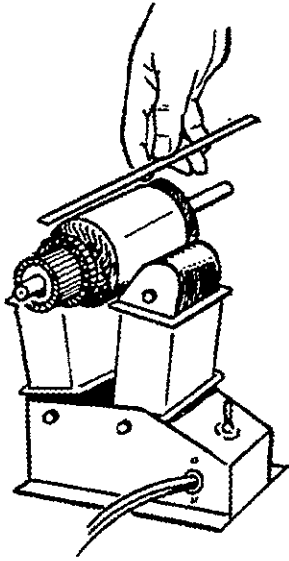

FIGURE 48. TEST FOR SHORTED ARMATURE
**Testing the Armature for Shorts:** Place the armature in the growler and hold a thin steel blade parallel to the core and just above it, while slowly rotating the armature in the growler, Figure 48. A shorted armature causes the blade to vibrate and move toward the core. A shorted armature must be replaced.